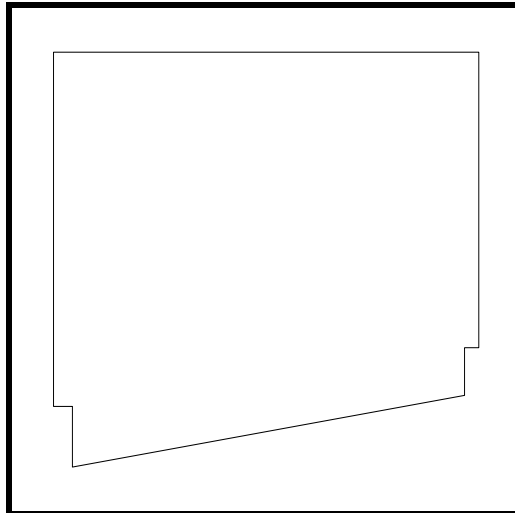

Figure 29
- ❑ Cut the battery box floor board to fit. See Figure 29. This floor board should rest on the cross braces of frames 8 and 9 and on the support just installed on the side longeron.